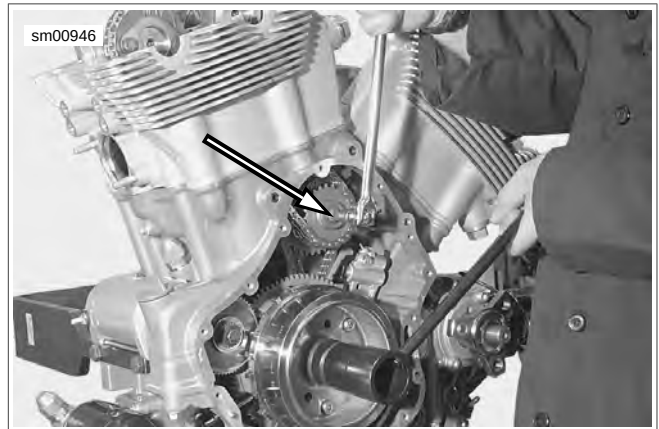

Figure 3-16. Triple Sprocket Fastener
12. See Figure 3-16. Loosen triple sprocket fastener.